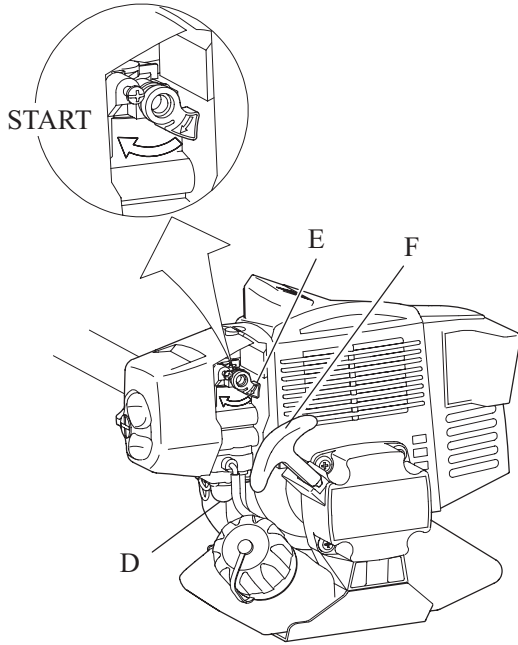
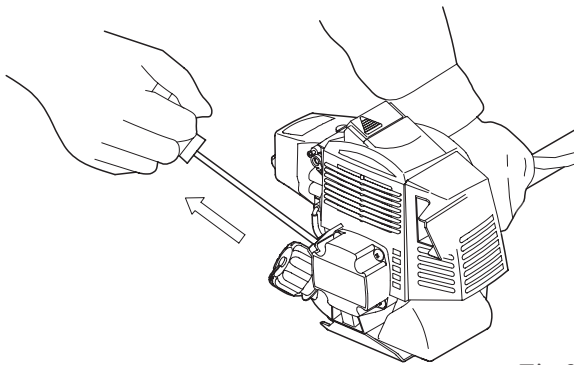

Fig.9-5
Fig.9-6
Push the priming pump (D) several times (Fig. 9-5).
Move the choke lever (E) to the “START” position (Fig. 9-5).
Pull the recoil starter grip (F) firmly and rapidly until the engine fires (Fig. 9-6).
**NOTE:** If you pull lever (B), the choke lever (E) will return by itself.
Push the priming pump (D:Fig. 9-5) several times.
Move the choke lever (E:Fig. 9-5) to the “START” position.
Pull the recoil starter grip (F:Fig. 9-5) firmly and rapidly until the engine fires (Fig. 9-6).
**NOTE:** If you pull lever (I), the choke lever (E:Fig. 9-5) will return by itself.